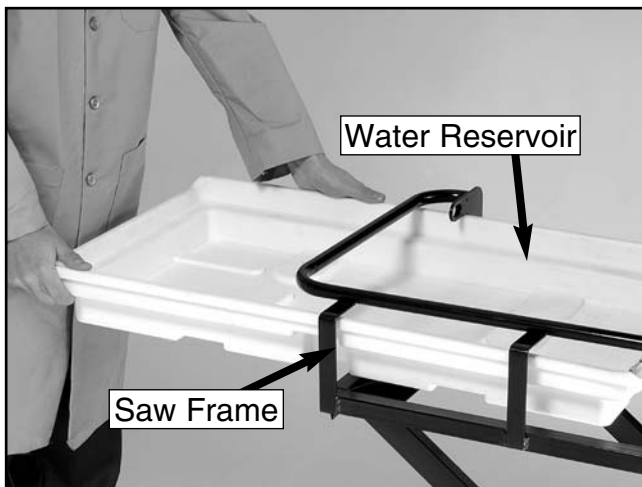

Figure 7. Installing the water reservoir.
4. Slide the plastic water reservoir into one end of the saw frame as shown in **Figure 7**. Be sure the reservoir is not protruding from either end of the frame.